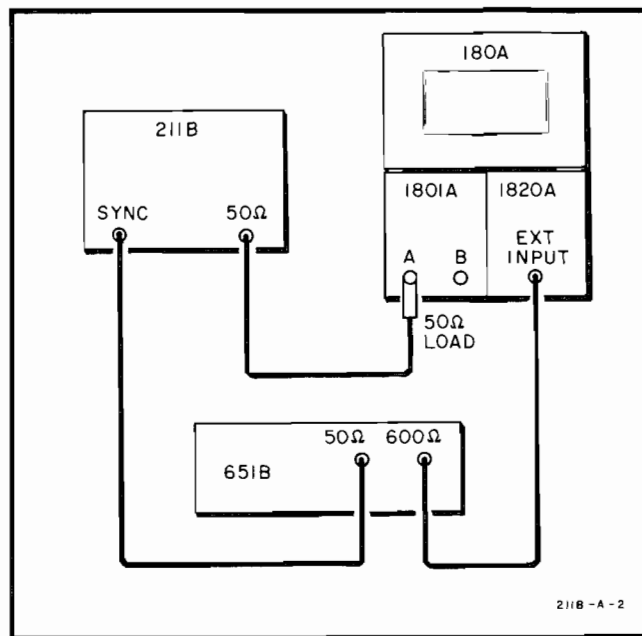

Figure 5-3. Synchronization Test Setup
b. Connect the equipment as indicated in Figure 5-3.